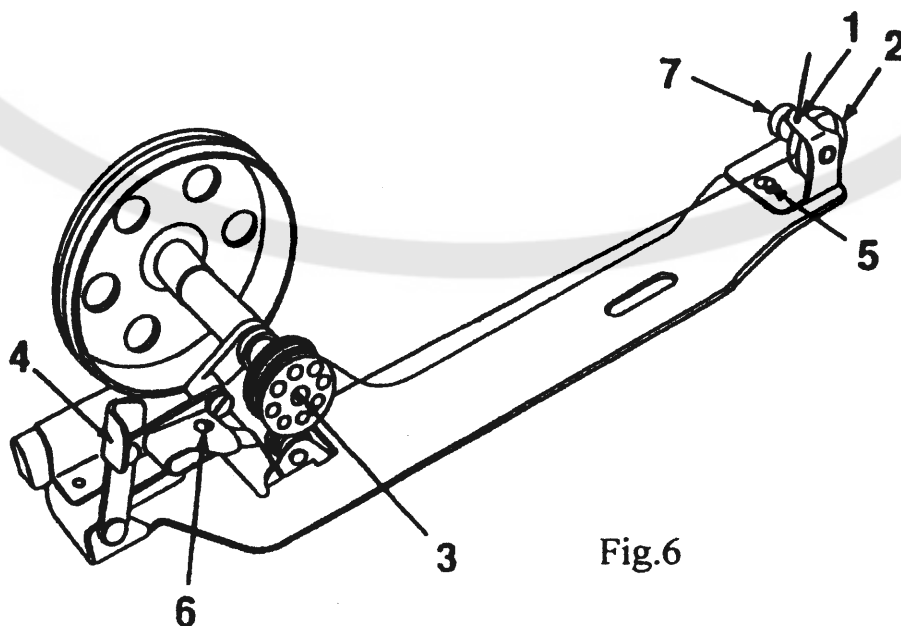

Fig.6
6.WINDING THE LOWER THREAD: (FIG. 6)